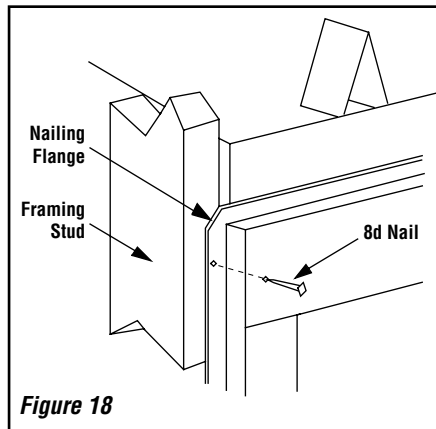

Figure 18
Step 5. Secure the fireplace to the side framing members using the nailing flange. Use 8d nails or equivalent (**Figure 18**).